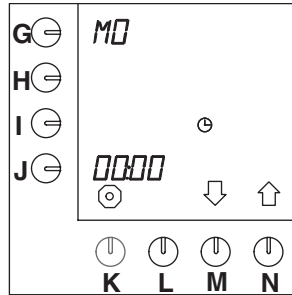

Fig. 31 Current day and time
- Press selection key (N.)↑ until fig.31 (Current day and time) appears on the display.
- The hours setting beside the programming key starts flashing (fig. 31).